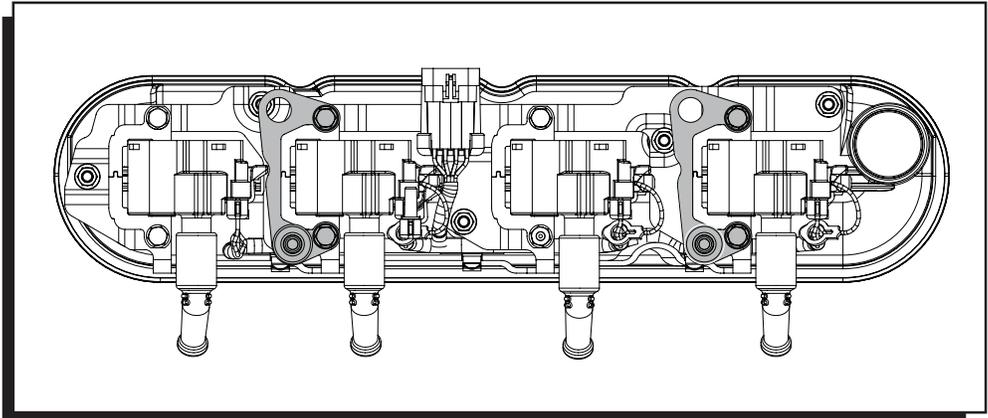

Figure 4 Installing the Coil Cover Brackets with OEM LS1/6 Coil Brackets.
2. Install the supplied cover bracket over the coil studs with the open hole pointing towards the top (inward) of the engine as shown in Figure 4 and 5 then reinstall the retaining nuts.